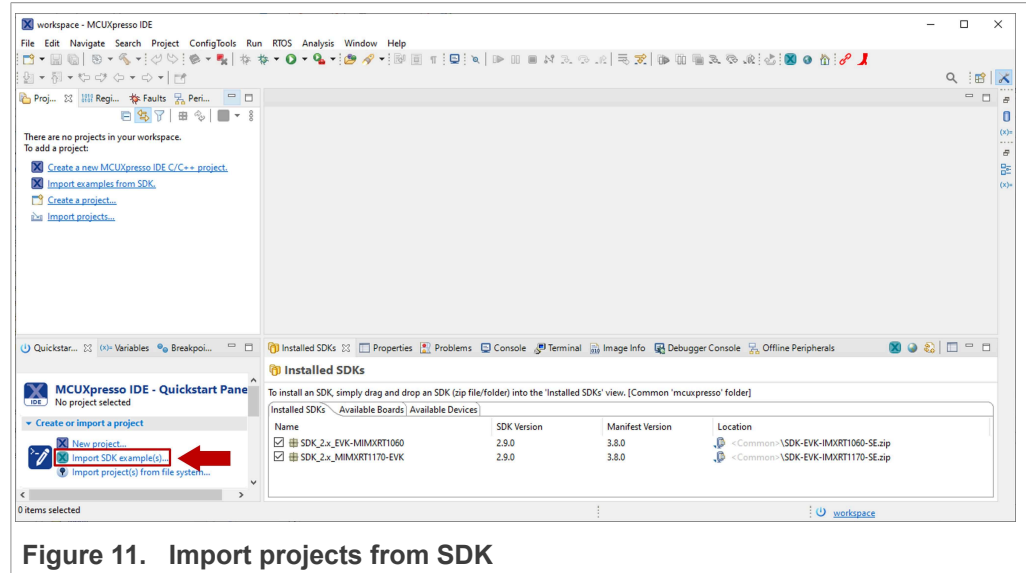

Figure 11. Import projects from SDK
1. Click *Import SDK example(s)* in the MCUXpresso IDE quick start panel as shown in Figure 11: